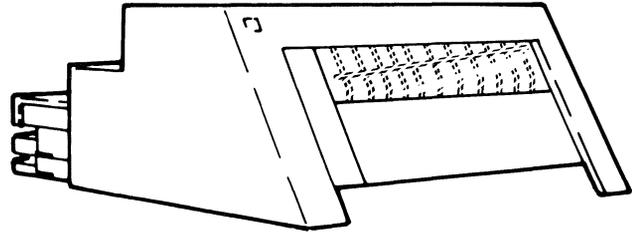

Figure 5 - Sheet Feed Paper Handler
- The Sheet-Feed Paper Handler is a two-tray paper handler which holds up to 400 sheets of paper. It feeds and stacks individual sheets of paper (Figure 5).